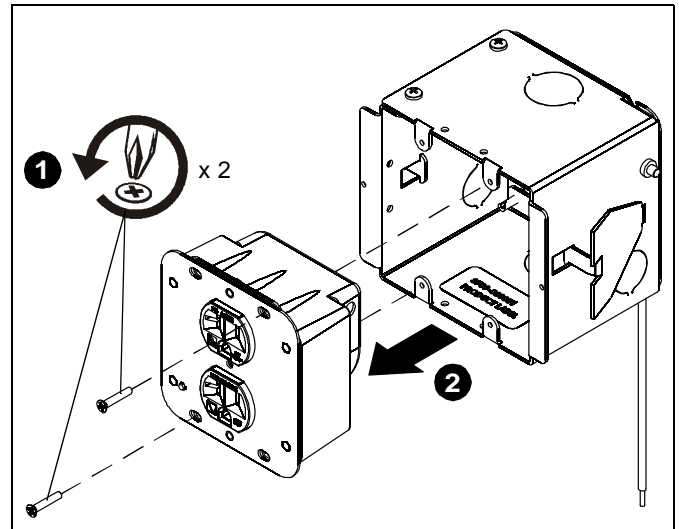

Figure 2
1. Remove and save two Phillips head screws from PX2W. (See Figure 2)
2. Remove outlet from PX2W. (See Figure 2)